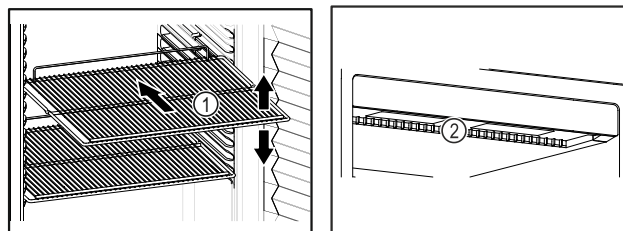

Fig. 10
- ☐ Ventilation slots Fig. 10 (2) for recirculation fan in the interior must be kept clear.